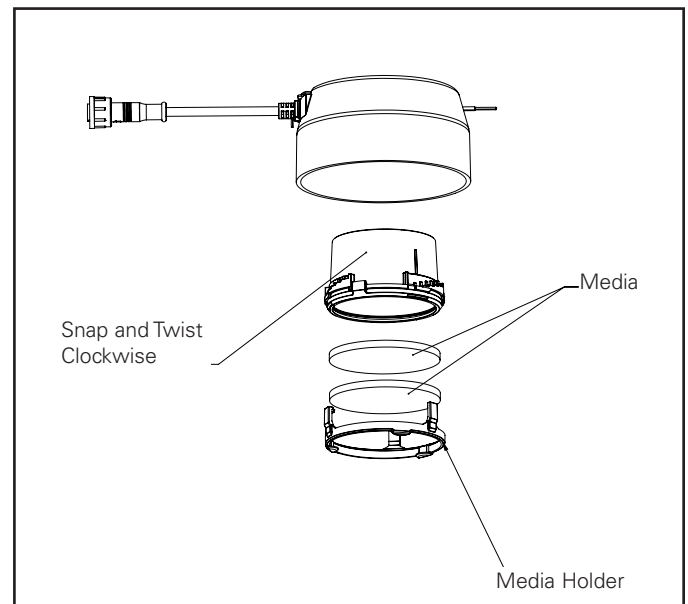

Figure 16.
2. Also available, is a single/double media holder. To install, place the media onto the media holder. Engage snaps at bottom of snap staircase. Twist clockwise until tight (Figure 16).